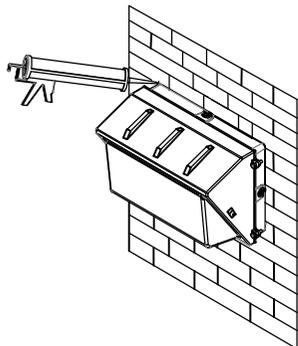

FIG.7
6. fasten the front cover(FIG.7).or (FIG.7.1)